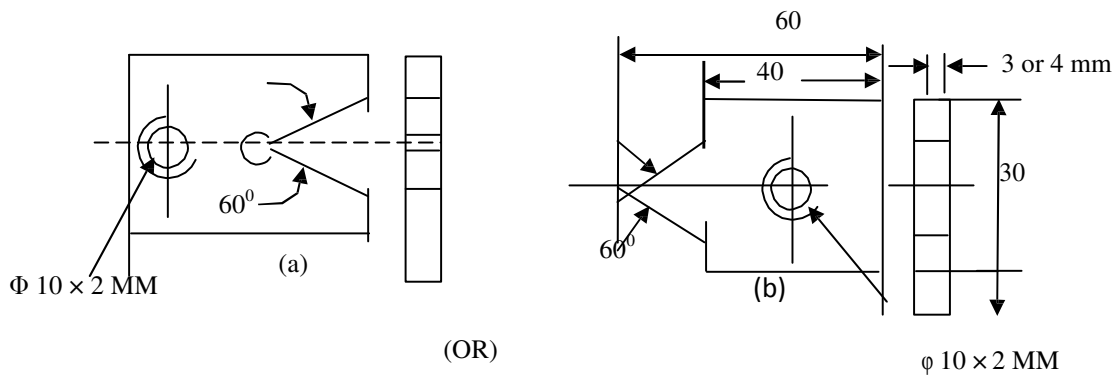

Fig.1: Job for fitting practice
i) FITTING (in 2 days or 6 hours); Making a gauge from MS plate as shown in Fig.1.